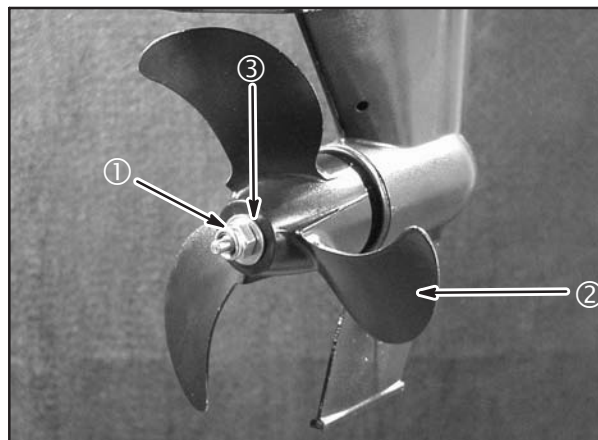

Fig. 21
1. Remove the stainless steel lock nut (Figure 21) ①, stainless steel washer ③ and the propeller ② from the propeller shaft.
5. Inspect the propeller (Figure 21) ② for broken or damaged blades, and for wear or damage to the hub. Replace or repair the propeller as required.